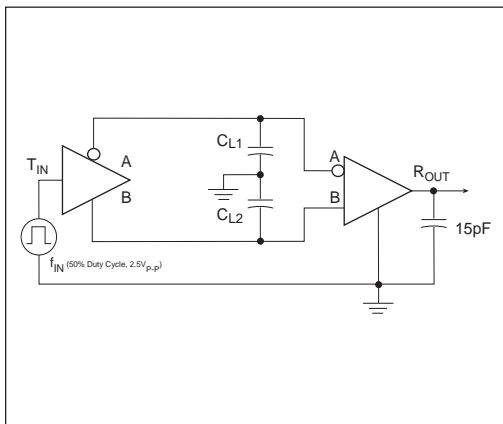

Figure 9. Driver/Receiver Timing Test Circuit
to 50% of V _{OUT} ; Figure 9, 10
1.5V of R _{OUT} ; Figure 9, 11